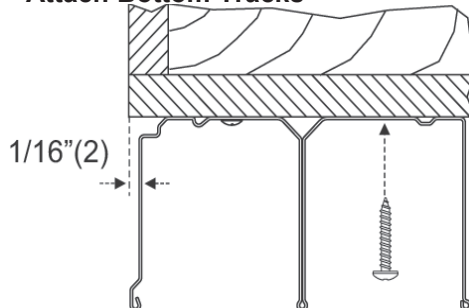

FIGURE 3
Screw 22010 Steel Top Guide track to header, locating front edge 1/16"(2) back from face of jamb as shown. Avoid using excessive force when screwing into header as this could deform the Top Guide (Figure 3).